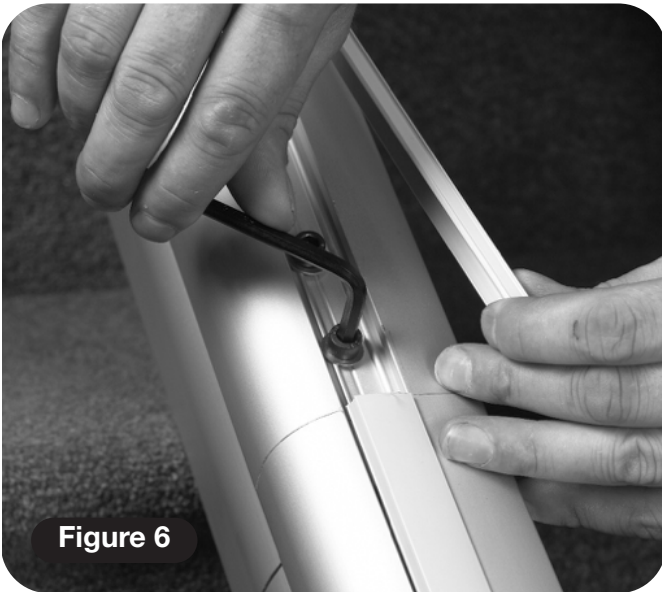

Figure 6
- 5 Bolt both sections of track together (**Figure 6**).